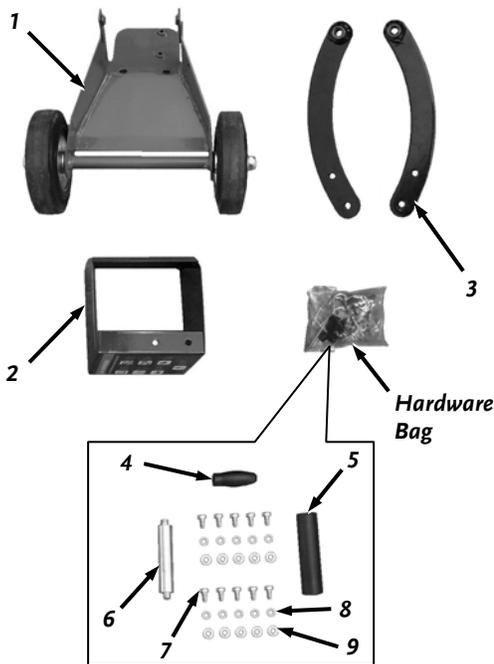

Figure 2
2. Remove the Carrying Handle Brackets, Carrying Handle, Rolling Wheel Bracket w/Wheels, Control Lever Guard, and Hardware Bag from the top section of the foam insert (**Figure 2**).
Compare the Parts (**Figure 2 and Table above**) with the parts you removed from the Shipping Box. If you have any Questions or if you need assistance, contact us at www.DRpower.com or call Toll-Free 1-800-DR-OWNER (376-9637).